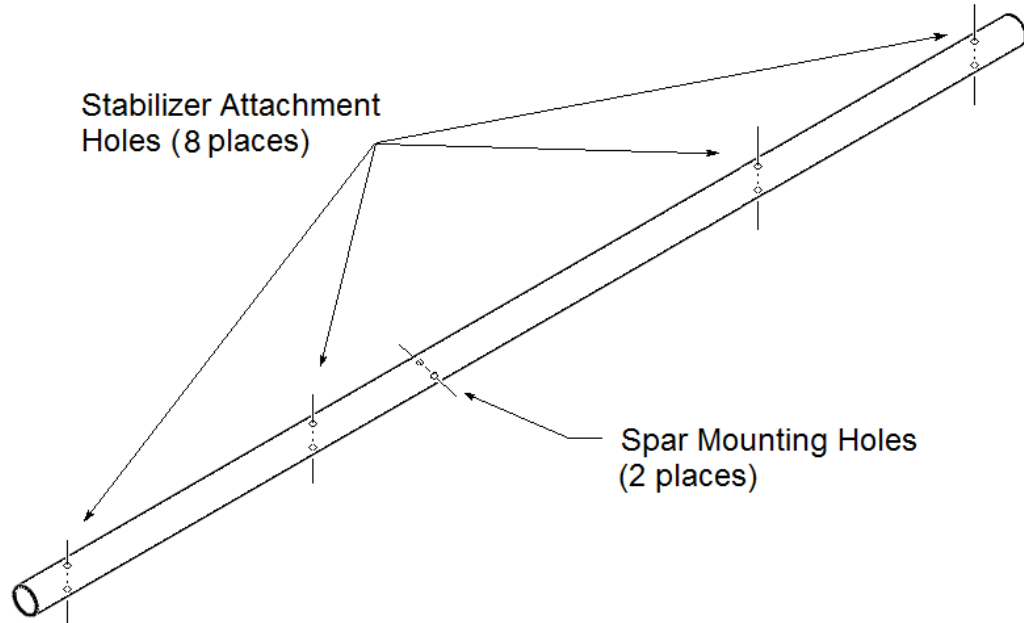

Figure 8-15.1. Stabilizer Spar Inspection – Stabilizer and Mounting Hole Attachment Points
- (c) Inspect the spar by using magnetic particle process, dye penetrant process, or a 10-power or higher magnifying glass to confirm that no cracks exist. Pay particular attention to the spar area around **all** drilled holes. Any cracks found are cause for rejection – replace with an airworthy part. Refer to Figure 8-15.1 for the location of all holes to be inspected.